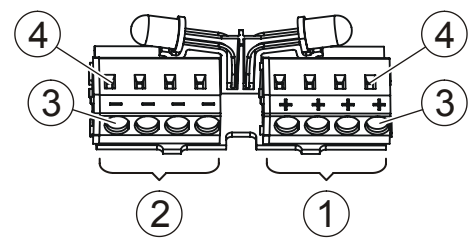

Fig. 9
**Line connections FDAI91 and FDAI92 (Fig. 9)**